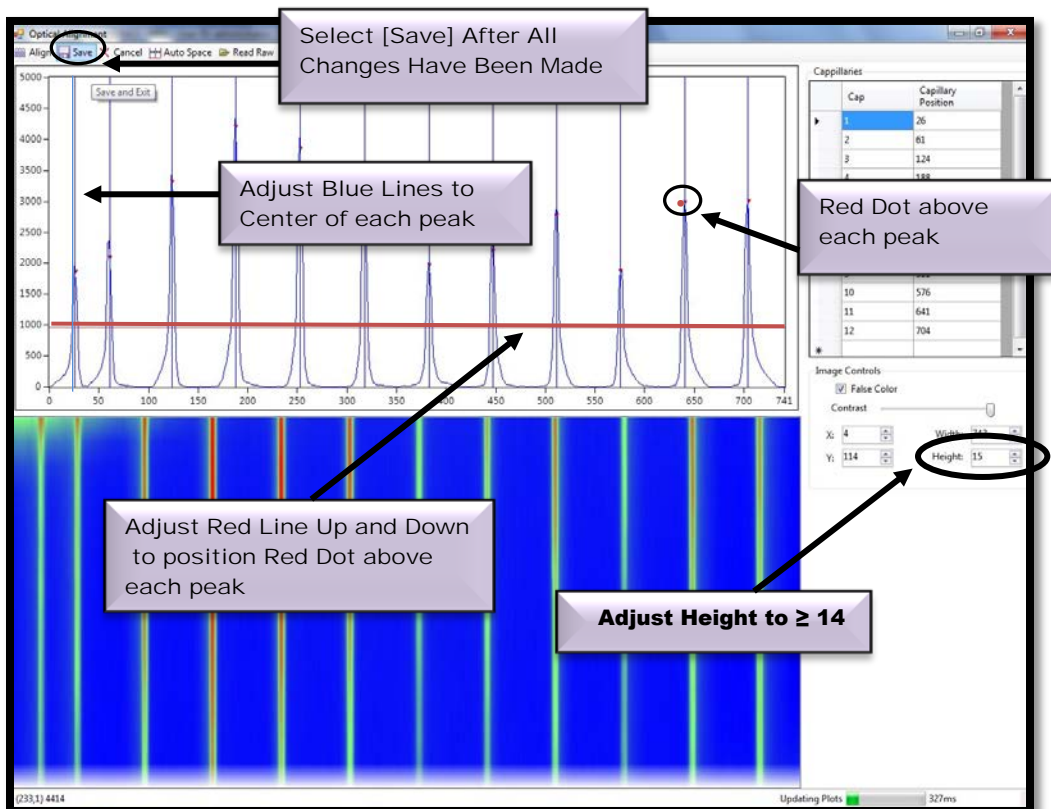

Figure 7-24. Capillary Alignment Processed Image Display: Save Selected Peaks
- ❏ Ensure that all the capillary peaks have a single red dot and the blue vertical lines are in the exact center of each peak before saving the alignment. (Fig.7-24)